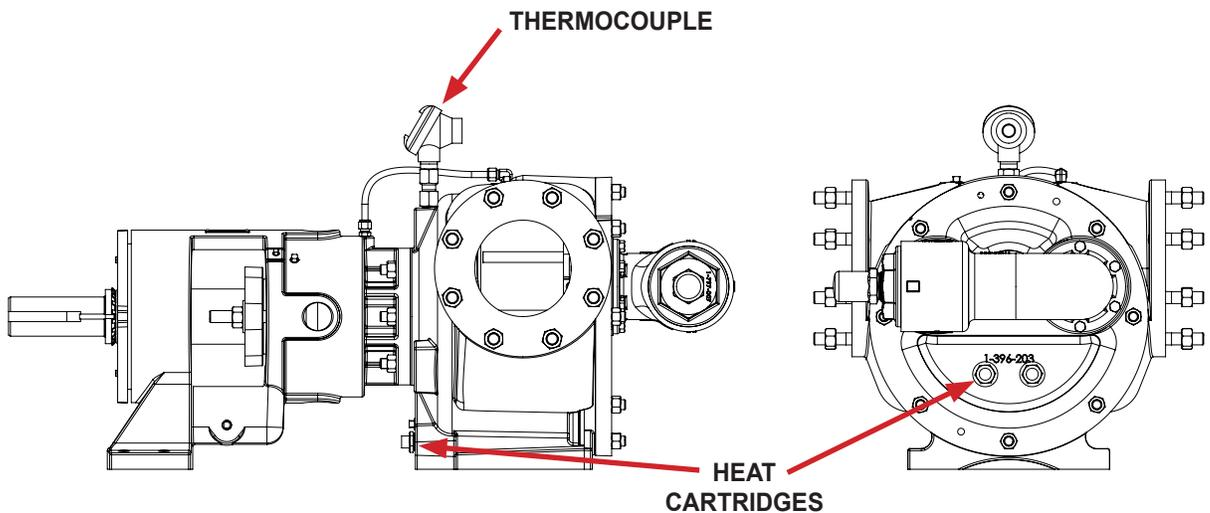

FIGURE 15 - HEAT CARTRIDGE AND THERMOCOUPLE LOCATIONS
2. Coat the threads of the heat cartridge with an anti-seize compound prior to installation. Install heat cartridges into the tapped ports on the head and bracket in the locations shown in **Figure 15** below. **Figure 15** also shows the location for the thermocouple. The number of heaters used and the total wattage for each pump size is given in Table 1 below. $\frac{3}{4}$ " heat cartridges should be tightened to 20 ft-lbs.